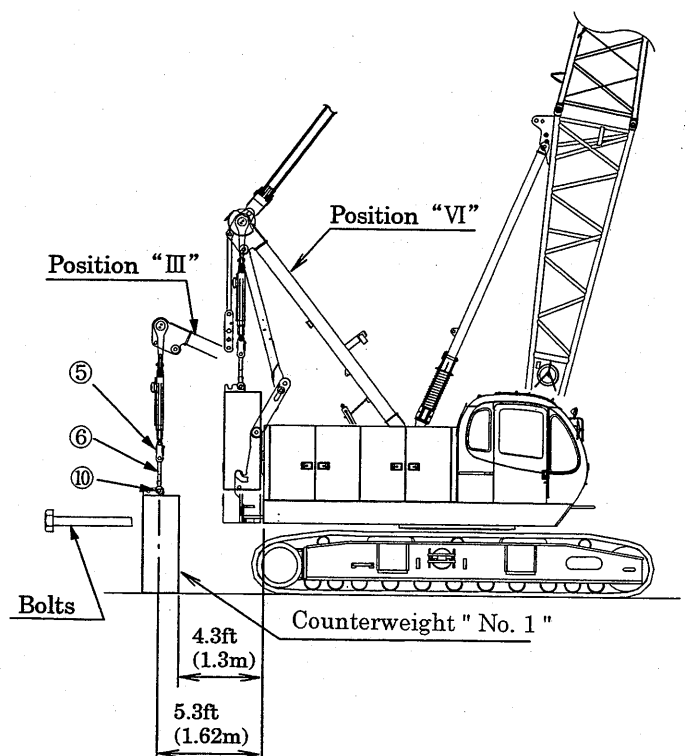

Fig 10-22
10.3.4 DISASSEMBLY OF COUNTERWEIGHT NO. 1 (FIG. 10-22)
- (1) To secure a space to lay the counterweight No. 1 down on the ground, travel the machine forward, or turn the machine 180° .
- (2) Retract the lift cylinder, and raise the gantry as per the "Position VI" shown in (Fig. 10-22) by boom raising operation.
- (3) Connect the link ⑥ and the counterweight No. 2 with the pin ⑩.
- (4) Remove the mounting bolts of the counterweight No. 1.
- (5) Lift the counterweight No. 1 by operating the control box to fully retract the right and left lift cylinders ①, while keeping a balance of right and left.